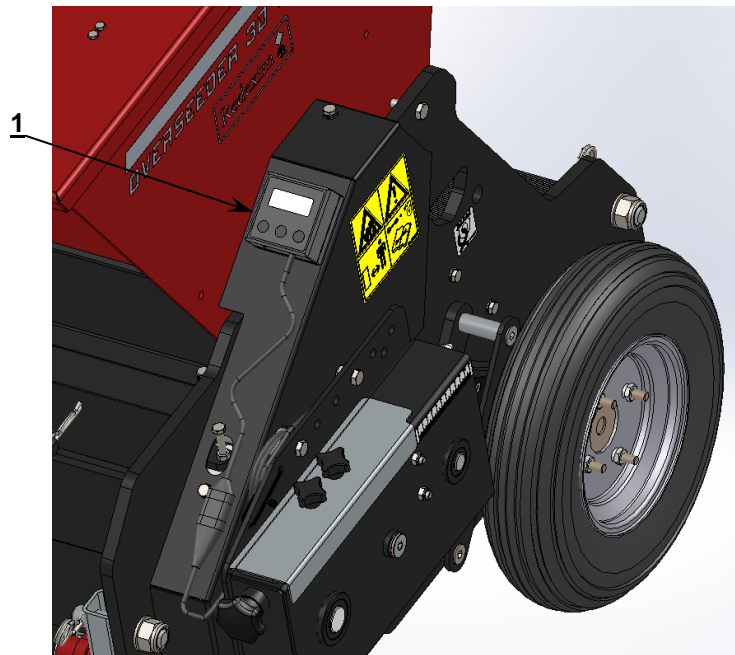

Figure 7
A digital surface meter (1) is mounted onto the machine (see Figure 7). This meter can be used to show various data (treated surfaces, distances, hours that you worked, etc.).